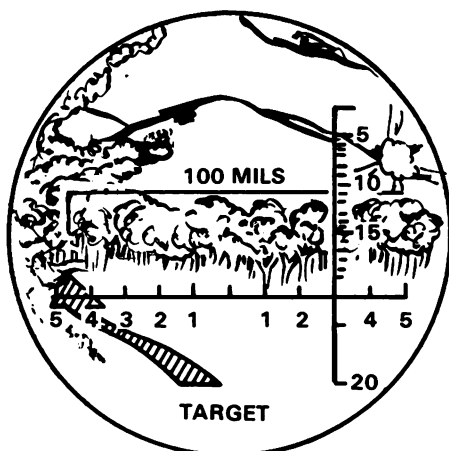

Figure 2.
(a) Measure the horizontal angle in mils, using either fingers or the reticle pattern in the binoculars (see figures 2 and 3). Estimate the range to the target and divide by 1000. This is the OT factor. If the OT distance is 1000 meters or greater, the OT factor is expressed to the nearest whole number. If the OT distance is less than 1000 meters, the OT factor is expressed to nearest 1/10th, e.g., 800 = .8. Multiplying the OT factor by the deviation measured in mils produces deviation in meters.
(b) For example, in figure 2 we measure the round 100 mils right of the target. Estimating the range to be 2,200 meters, the OT factor is 2.2. For adjustment purposes, we express the OT factor to the nearest whole number. Example: 1.1 would be 1; 1.8 would be 2; 2.5 would be 3. Multiplying the angle (100 mils) by the OT factor (2), we get the deviation in meters (200 meters right).